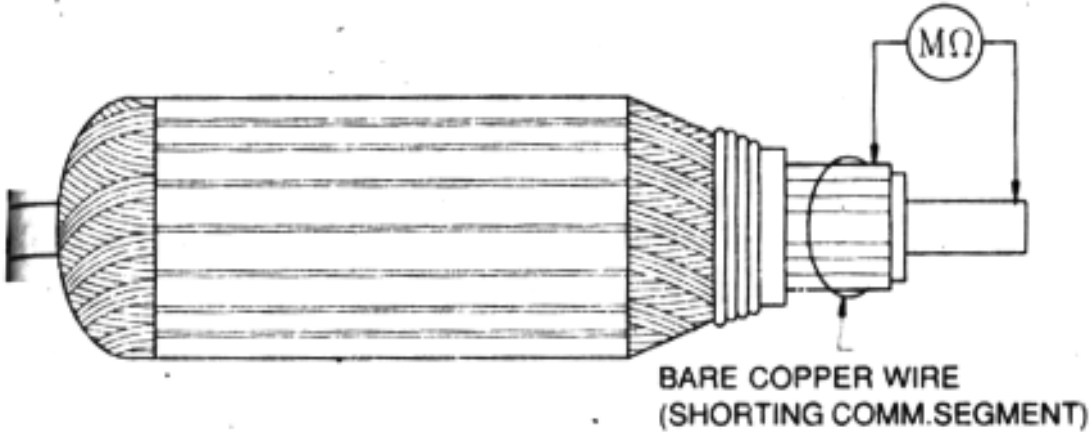

Fig. 6.14
6.4 INSULATION RESISTANCE TEST : With a bar copper wire, short all the commutator segments, as shown in Fig. 6.14.